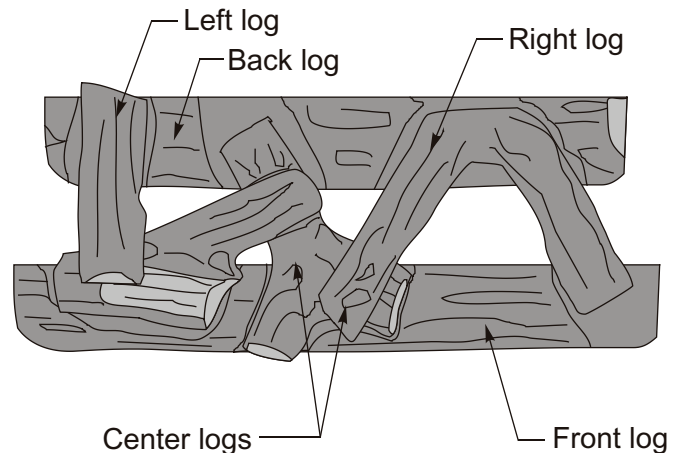

Figure 27. Proper placement (top view).
5. Place the top logs in position as shown in figures 27 and 28.